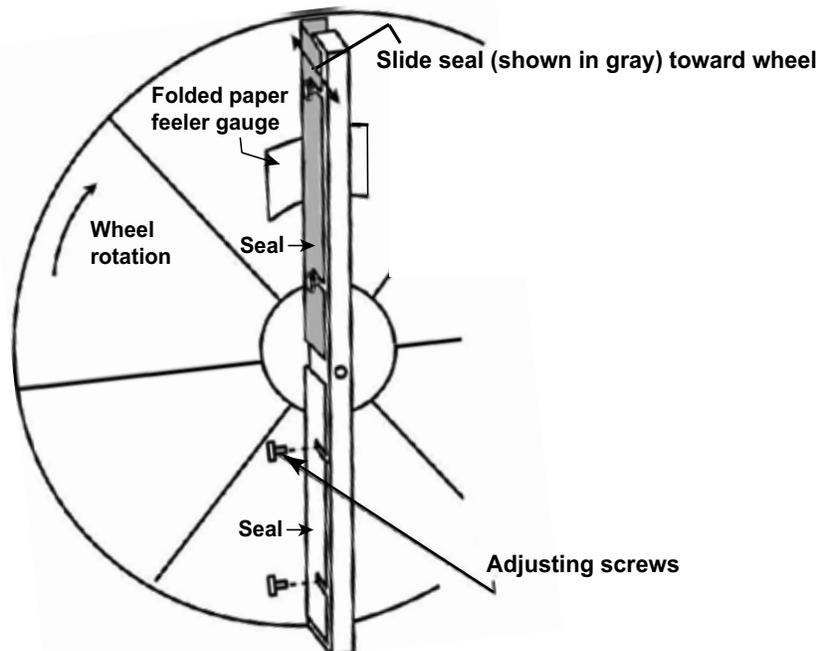

Figure 41. Seal Adjustment on Energy Recovery Wheel
7. Check and adjust (as necessary) wheel seals (see Figure 41) as follows: